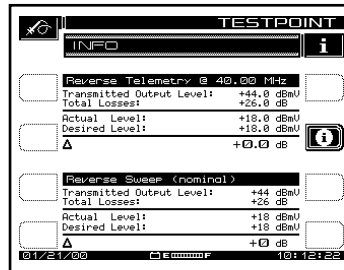

Figure 6
The reverse compensation information screen provides additional detail to the reverse TP set-up screen (Figure 6). Information includes the transmitted output level from the SDA-5000, and the actual level at the device under test.
- Please note the REVERSE TELEMETRY FREQUENCY header at the top of Figure 6. This reference frequency that appears in the header is actually programmed in the 3ST, 3HRV, SDA-5500 or SDA-5510, but is displayed after you perform the first reverse sweep. Therefore, the default frequency will always be 40 MHz until you perform a reverse sweep, and then this frequency will change depending on what frequency was programmed in the headend unit.